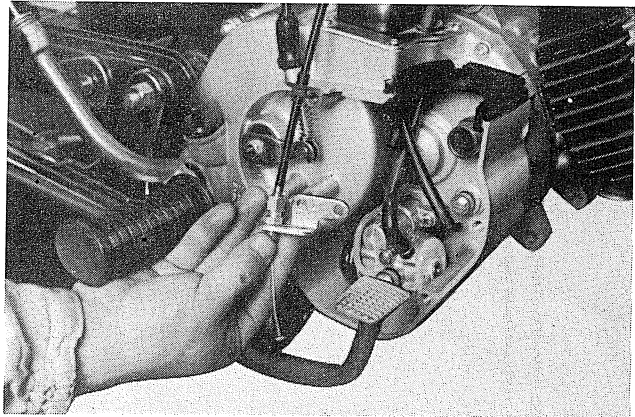

Fig. 3-1-15
12. Disconnect the pump cable, together with the adjusting holder. (Fig. 3-1-15)